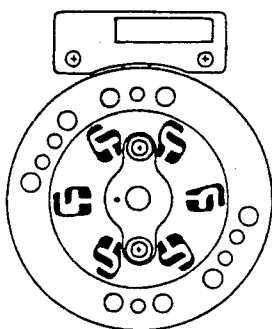

Figure 1-75.
2. Place the relay PWB as shown in Figure 1-75 and solder it securely.